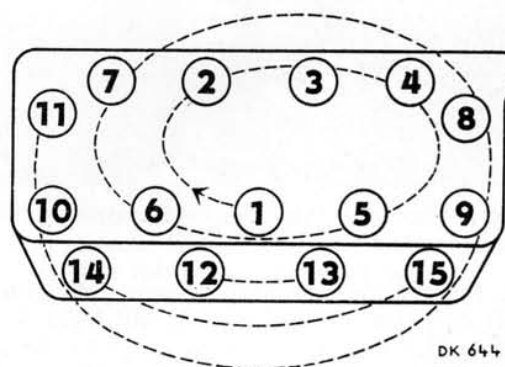

Fig. 2.16/1 - Tightening Diagram of Cylinder Head Bolts and Nuts
3. Remove the air cleaner, lift away the cylinder head cover, and remove the nuts and bolts holding down the cylinder head (on engines of Škoda 120 L and 120 LS cars, two bolts also hold down the end rocker shaft supports) reversing the order of the numbers indicated in Fig. 2.16/1. By pulling the exhaust manifold, disengage the cylinder head and lift it away.